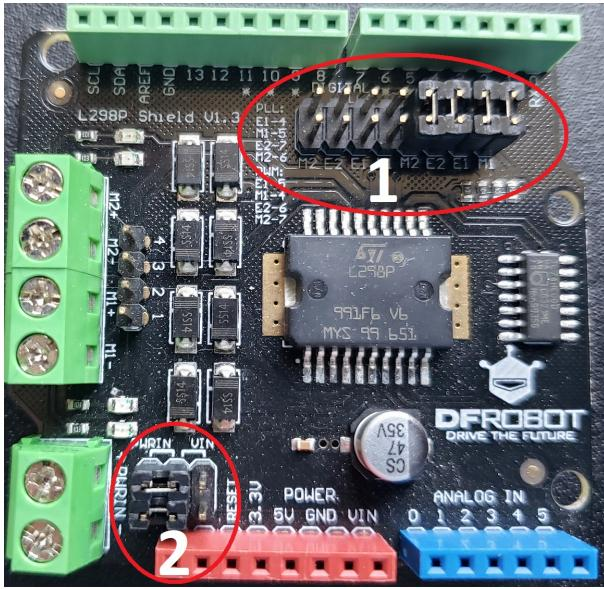

Figure 2: Motor shield jumper configuration.
1. Jumper the pins of the DRI0009 as a PWM input. Figure 2 shows the correct setup of DRI0009 with jumpers on the eight top right pins (labeled as M2, E2, E1, and M1 from left to right). These jumpers ensure that DRI0009 is configured to accept PWM signals to drive the DC motor.
2. Additionally, DRI0009 has 6 pins in the bottom left-hand corner of the board, which are also shown in Figure 2. Jumper the pins to accept an external power supply in order to power the DC motor. This requires that the left four pins out of the six pins are jumpered, with the top-left two pins jumpered together and the bottom-left two pins jumpered together.